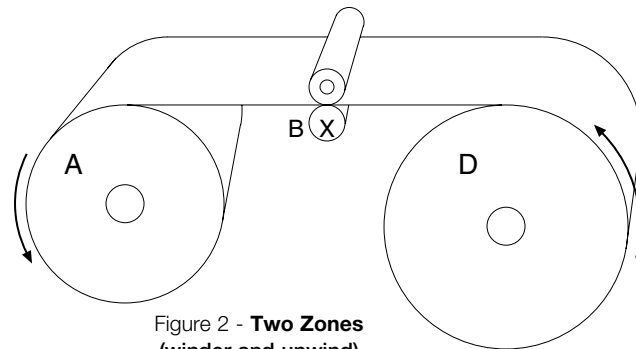

Figure 2 - Two Zones (winder and unwind)
**II.** More commonly, a machine will have driven nip rolls in the center, or processing section (see Fig. 2). A simple slitter/rewinder is an example. In this case, there are two separate tension zones to deal with and the tension levels may be different in each zone. Different tension levels are possible because the web is captured at the driven nip rolls, thus creating separate and distinct unwind and rewind zones. The driven nip rolls (B) will typically be powered by a motor drive that establishes machine line speed. Processing tension will be controlled by a brake system at the unwind (D), and a clutch or motor drive will control the winder tension (A). Again, the method of control will be dictated by the accuracy of tension control required in each zone. If process tension levels can vary by 10% or greater, a simple open loop brake control system may suffice. More accurate control would require a closed loop system, such as dancer or load cell feedback. Likewise, in the winder zone, open loop control may be sufficiently accurate, or closed loop or taper tension control may be required.